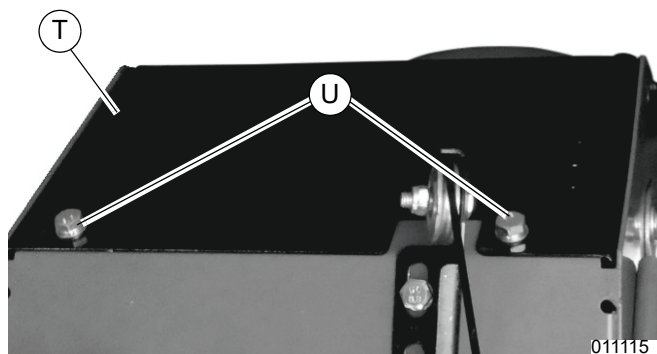

Figure 4-37. Installing Transmission Cover
11. See Figure 4-37. Secure transmission cover (T) with two bolts (U).